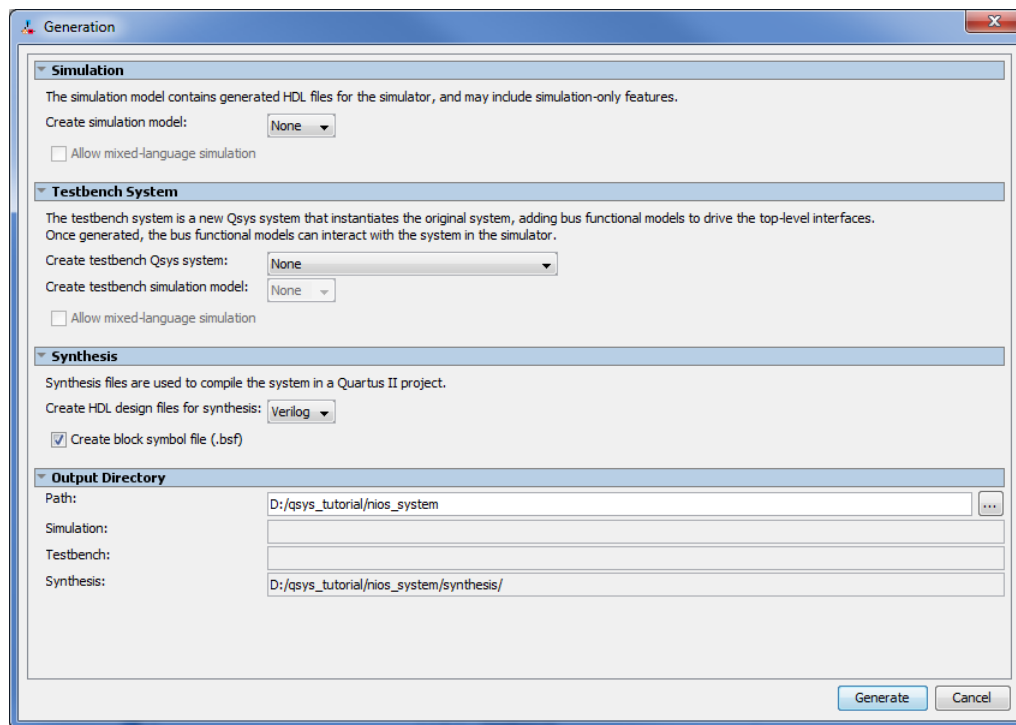

Figure 20. Generation of the system.
- Having specified all components needed to implement the desired system, it can now be generated. Save the specified system; we used the name *nios_system*. Then, select **Generate > Generate...**, which leads to the window in Figure 20. Select **None** for the options **Simulation > Create simulation model** and **Testbench System > Create testbench Qsys system**, because in this tutorial we will not deal with the simulation of hardware. Click **Generate** on the bottom of the window. When successfully completed, the generation process produces the message "Generate Completed".